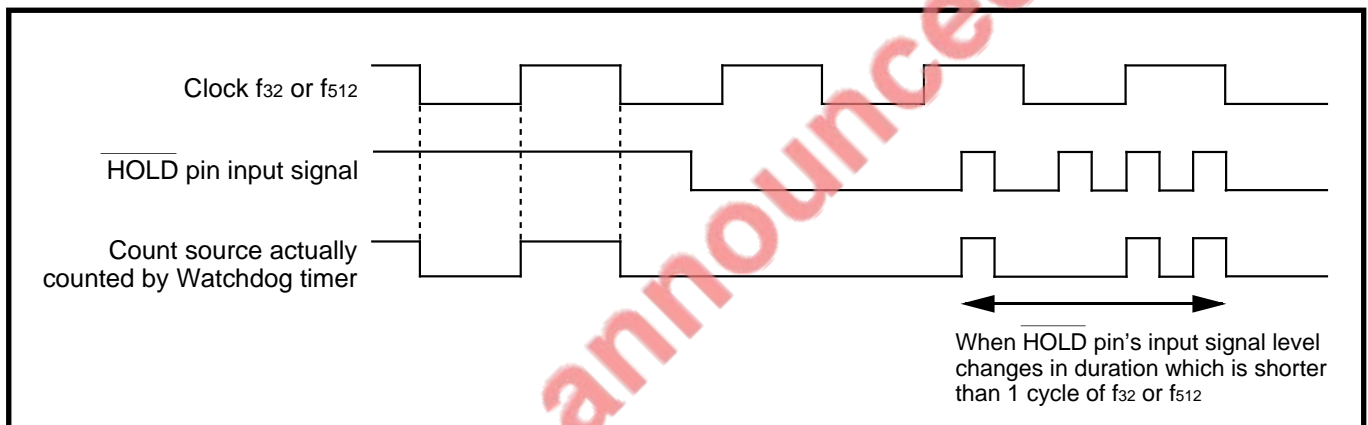

Fig. 9.3.1 Watchdog timer's count source
3. To stop Watchdog timer in Hold state, the count source which is actually counted by Watchdog timer is the logical AND product of two signals. One is the inverted signal input from the **HOLD** pin, and the other is the count source (f_{32} or f_{512})(Note). Accordingly, when the **HOLD** pin’s input signal level changes in a duration which is shorter than 1 cycle of the count source (**Note**), counting by Watchdog timer can be performed. (Refer to Figure 9.3.1.)